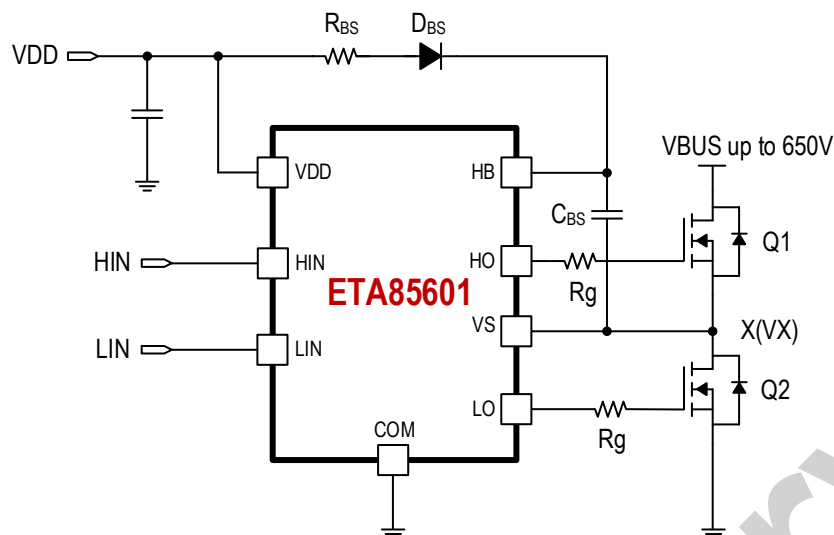

Figure 7. Bootstrap circuit
Using a N channel MOSFET as a high side switch requires a voltage supply referenced at the source of the MOSFET. One of the most widely used method in supplying power to the high-side circuitry is the use of the bootstrap floating supply due to its inherent simplicity and inexpensive features. This kind of floating supply is suitable for providing a gate drive circuitry to directly drive high side switches that operate up to rail voltages. The basic circuit of the bootstrap supply, shown in Figure 7, is formed by a diode (D_{BS}) and a capacitor (C_{BS}). But, this type of floating supply has limitations on refreshment of C_{BS} when duty cycle is very high or turn-on time is very long. In the case where the gate voltage is not enough to fully turn-on the MOSFET (Q1), the output of gate drive IC (HO) should be turned-off to prevent the Q1 from operating in high dissipation mode. The optional gate resistor (R_g) is used for the purpose of controlling the turn-on/turn-off time of the Q1, and the bootstrap resistor (R_{BS}) is used to limit the current and prevent the bootstrap capacitor.